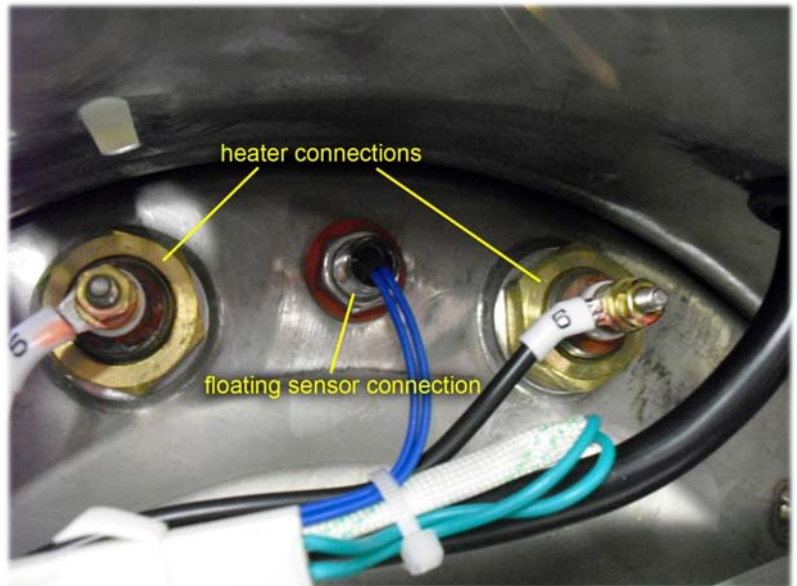

Figure 1
4. Locate the heater connections (See Figure 1) and make sure both connections are securely in place.